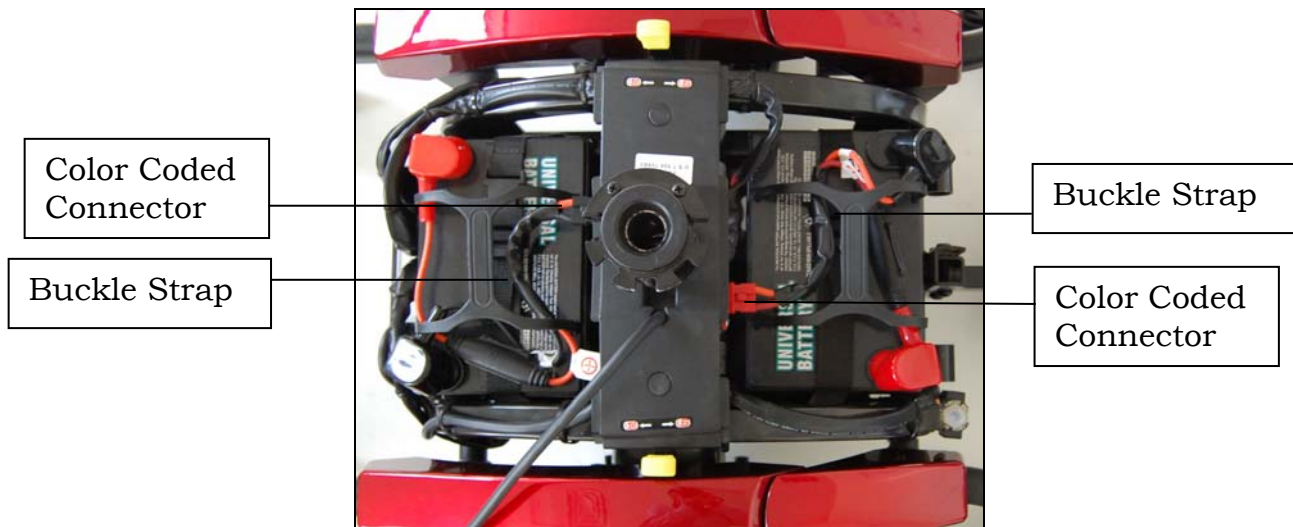

Figure 10
4. Secure the batteries in place using the buckle straps. See figure 10.
5. Connect each color coded battery cable connector to the corresponding connector on the main wire harness. See figure 10.